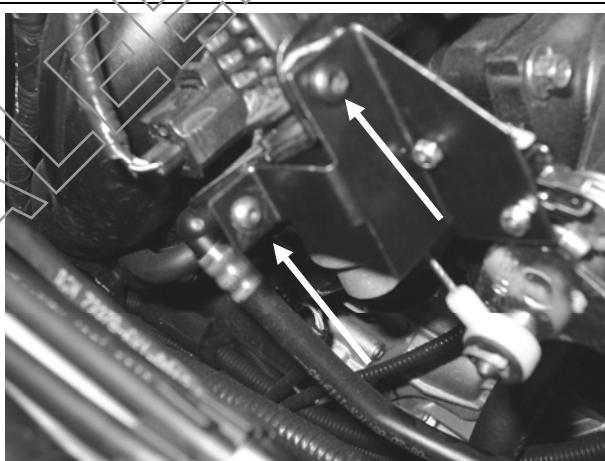

FIGURE 51
77. Bolt WOT switch bracket in place of factory throttle cover using existing holes, the torque-bit screw removed in step 66, and one Capscrew Skt. Hd. 8-32x0.375 (00-9001-C08674*) with one (1) Nylock 8-32 nut (00-9003-C07834*) (**FIGURE 51**).